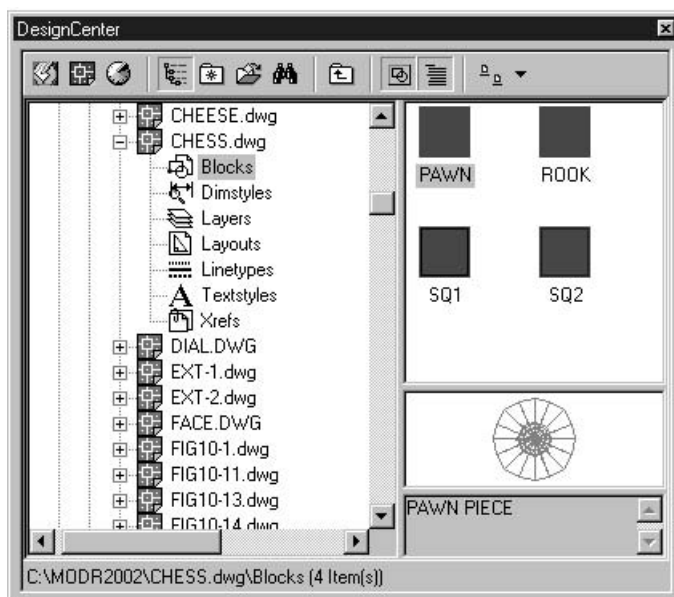

Figure 23.8 The Design Centre dialogue box with blocks explored for C:\MODR2002\CHESS.
- e) dialogue box displayed as Fig. 23.8